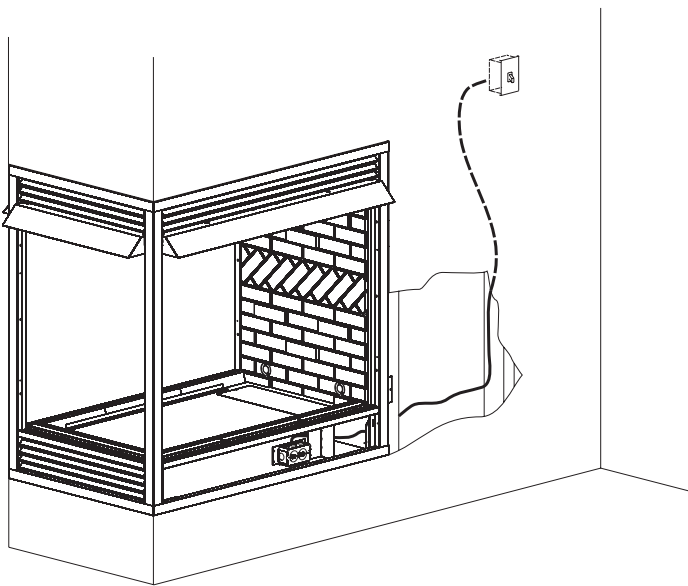

Figure 1
1. Remove the upper and lower louvers or flush panels from the Firebox by lifting upward and outward, then set aside. Open the firescreens or remove the screen panel(s) as necessary. On Firebox models, the blower cover plate (located on the hearth pan) may also be removed for additional access. See Figures 1 and 2.